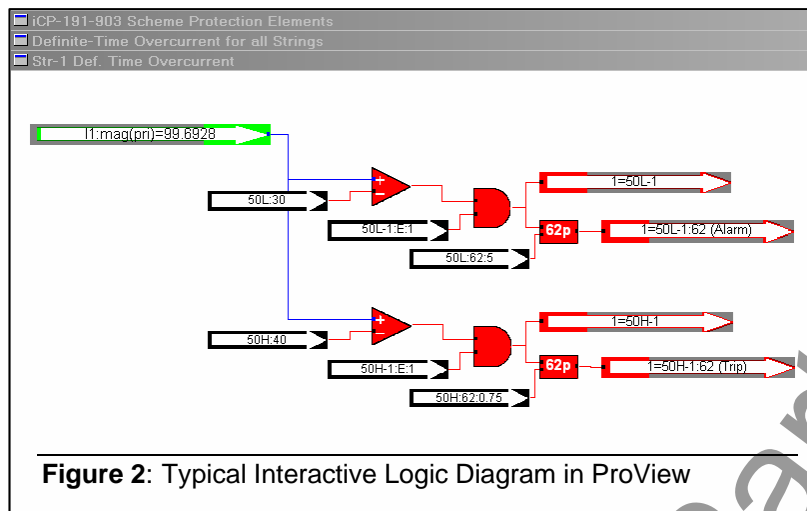

Figure 2: Typical Interactive Logic Diagram in ProView
- Monitor and control practically every aspect of the relay's operation with interactive logic diagrams. See Figure 2. View the layout of protection and control logic diagrams via the graphical interface software; observe actual binary status or analog data values while "On Line", playing back events or in simulation mode.